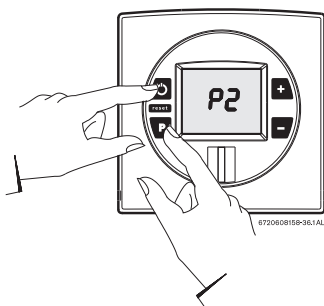

Fig. 56
- ▶ While holding the Program (P) button in, press the ON/OFF button to turn ON the heater (see Fig. 56). As soon as '188' flashes on the display, release the Program button. The display should now read P2. Press '+' button until "P1" appears on display.